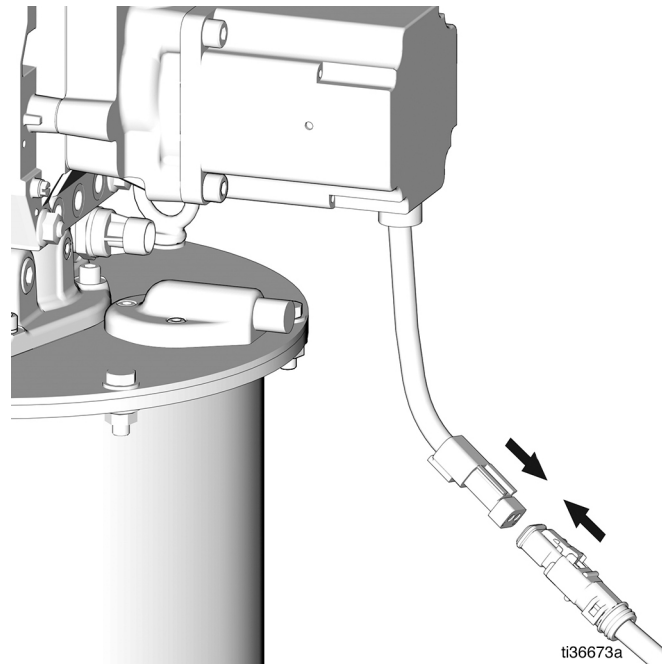

FIG. 15
11. Reconnect the power to the system (FIG. 15).